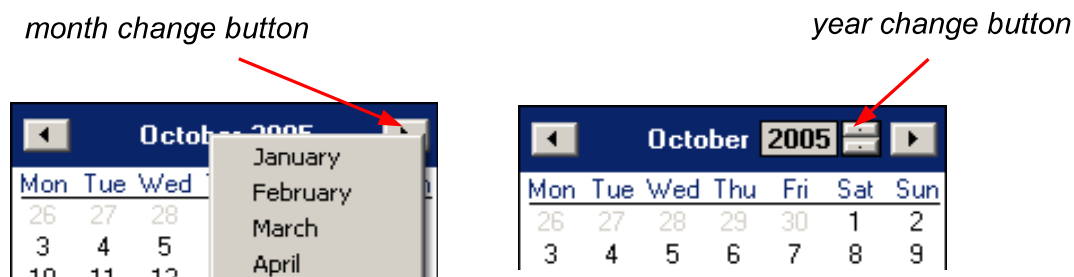

Fig. 3.5. Changing months and year
- 2) The date can be change by clicking onto any day in the calendar. Buttons at the top part of the calendar are used to change months (Fig. 3.5). After clicking on the current year located to the right from month’s name an edition window and buttons for changing the year are displayed (Fig. 3.5).